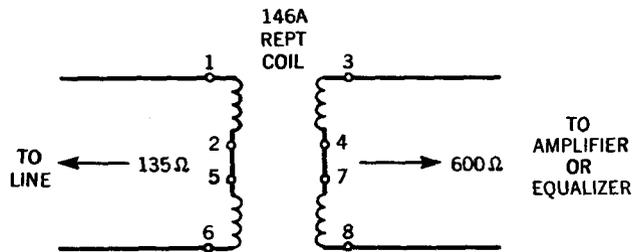

Fig. 5 — Strapping for 146A Repeating Coil
3.04 The strapping for the 146A Repeating Coil is shown in Fig. 5 below. This coil is used with the L2 and L3 Amplifiers as the input and output transformer. Hence, two are required per amplifier. The coil is connected to the input terminals as specified above. However, the output connections for the L2 Amplifier are different. Terminal 8 of the 146A Repeating Coil is connected to a 300-ohm resistor which, in turn, is connected to output terminal 13 of the List 2 Amplifier. Terminal 3 of the coil is connected to output terminal 12 of the List 2 Amplifier. Terminals 3 and 8 of the coil are connected to output terminals 12 and 13 of the List 3 Amplifier as previously indicated.